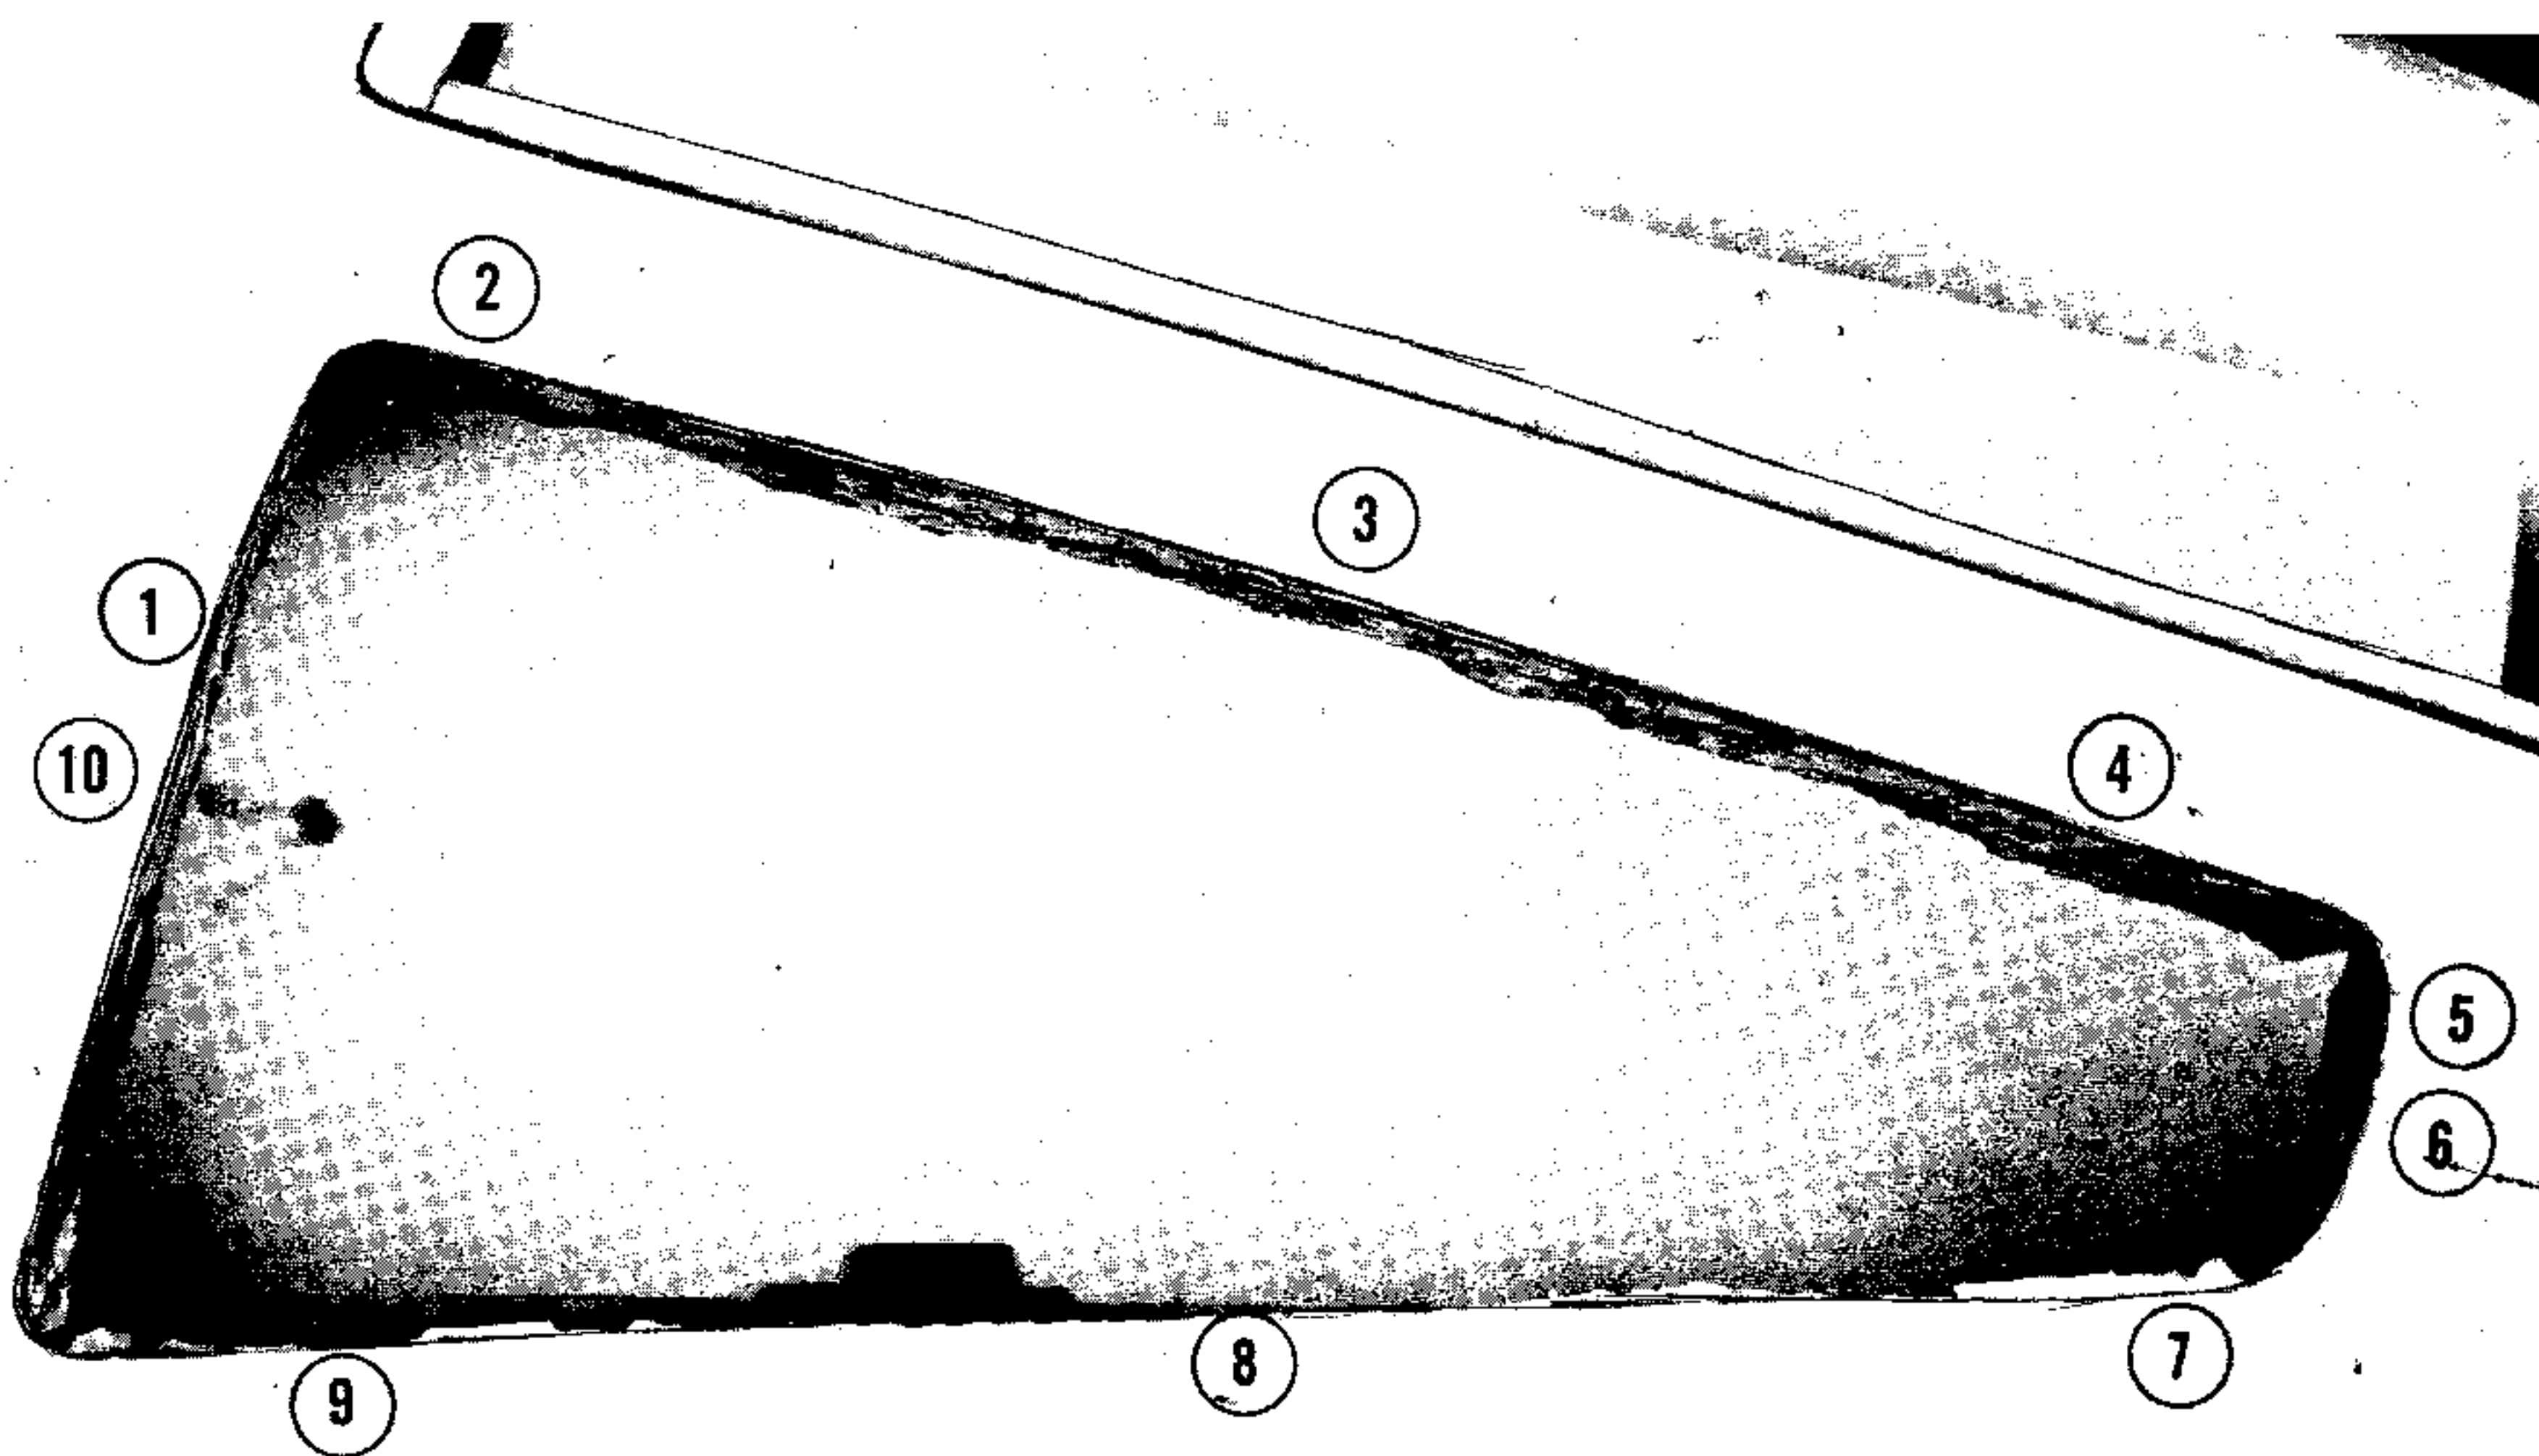

FIGURE 3
8. Check the approximate position of ten holes by presenting (don't drill yet) the right angle drill motor close to the metal window frame. Figure 3 shows the ideal position of the ten holes to be drilled. If a small right angle drill is not available, holes number 4 and number 7 will not be as close to the corners as marked on the illustration. However, these two holes should be as close to the corners as your equipment will allow. Mark the frames with pencil where the holes can be drilled.